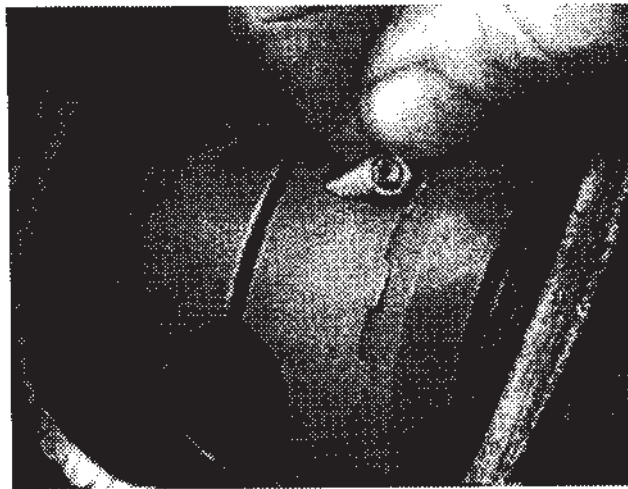

Figure 10
3. Place one end of a spring assembly into the window hole, behind the pin (**Figure 10**). Compress it with a small